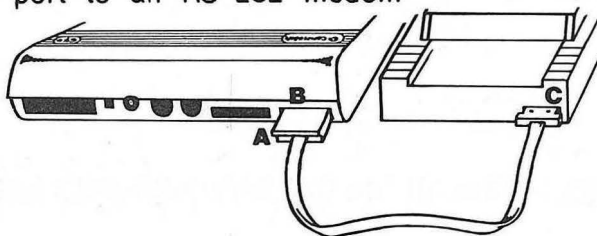

FIGURE3 64 User's Port to Parallel Printer
2. VL-3 Adapter with a Parallel Printer: This is a useful cable when you require a direct connection to a parallel printer such as an EPSON, a NEC, a CENTRONICS or a C.I.TOH. This adapter permits the simultaneous connection of both an IEEE device, such as a Commodore 4040 drive, and a parallel device, such as an Epson printer. Connect the printer to the VL-3 cable and then connect the other end of the cable to the 64 user's port (B in Figure 3). Using a PET to IEEE cable, connect the disk drive to the back of the C64-LINK cartridge. You could also use a 1541 (serial) drive with a parallel printer, or a Commodore tape recorder, a 1541 (serial) drive, and a parallel printer. Mix and match these peripherals to suit your requirements and your budget.